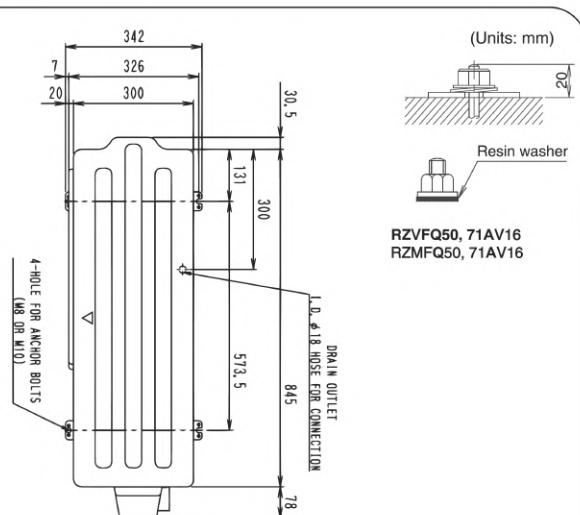

Fig. 1 BOTTOM VIEW
- In accordance with the foundation drawing in Fig. 1, fix the unit securely by means of the foundation bolts. (Prepare 4 sets of M12 foundation bolts, nuts and washers each which are available on the market.)
- Fix the outdoor unit to the foundation bolts using nuts with resin washers. (See the left-hand of Fig. 1 drawing)